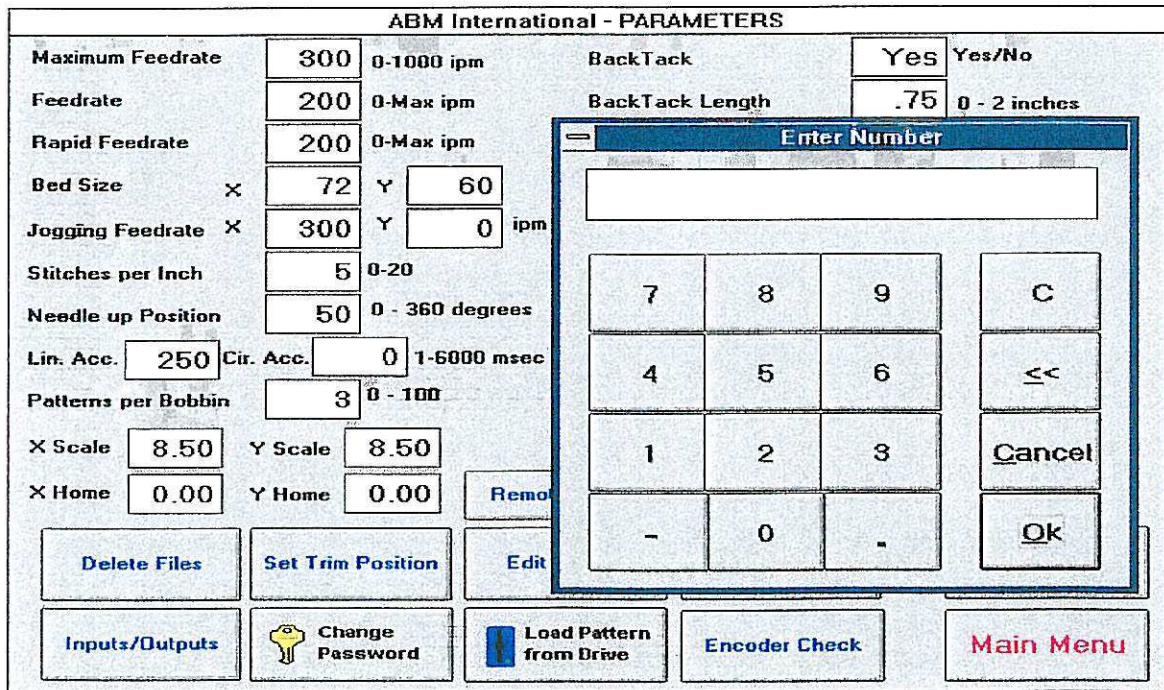

Figure 4.16
C. Press the "O.K." key and the parameter screen will appear. See Figure 4.16.